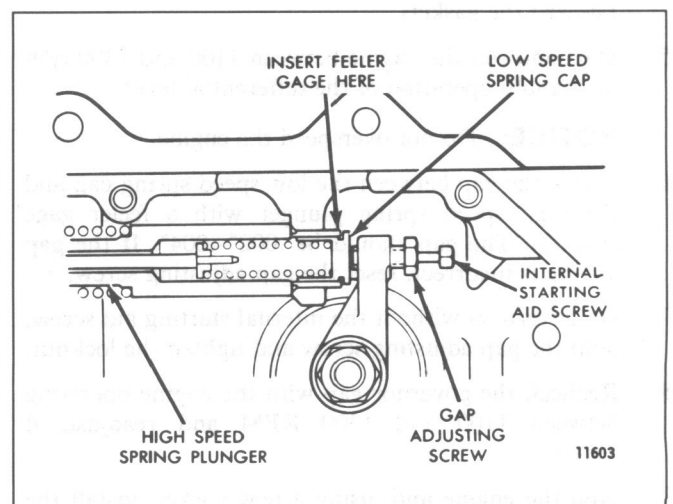

Fig. 3 – Governor Gap Adjustment
6. Check the gap between the low speed spring cap and the high speed spring plunger with a feeler gage (Fig. 3). The gap should be .002"–.004". If the gap setting is incorrect, reset the gap adjusting screw.